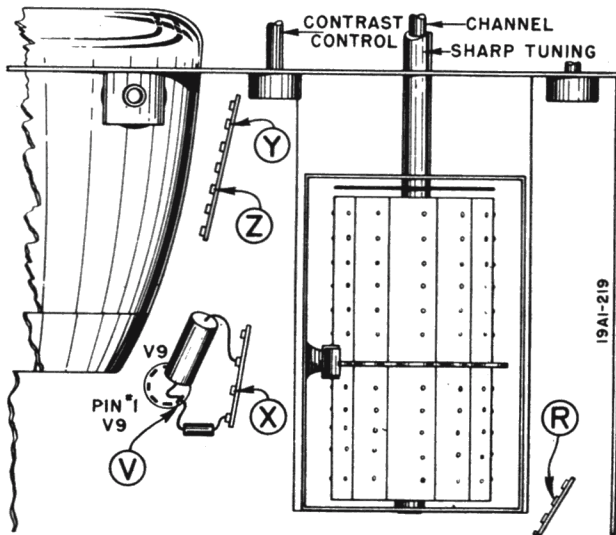

Figure 29. Bottom View Chassis Showing Alignment Connection Points.
- Alignment adjustments and connection points are shown in figures 29 and 30.
- Alignment adjustments, connection points, and response curve are shown in figs. 29, 31, 32.
- Alignment adjustments, connection points, and response curve shown in figs. 29, 32, 33, 34.